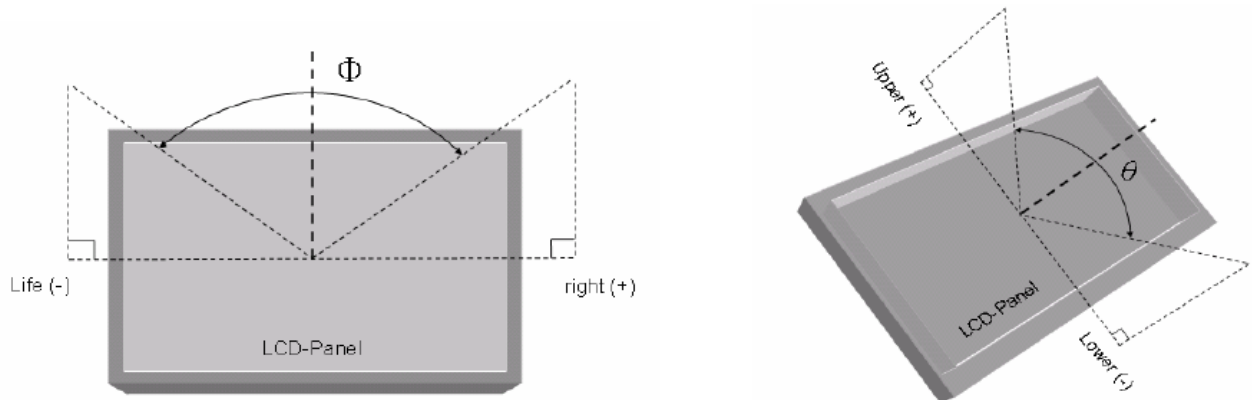

Fig9-2 Definition of Viewing Angle
Note(4) Definition of Viewing Angle(Θ , Φ), refer to Fig9-2 as below :